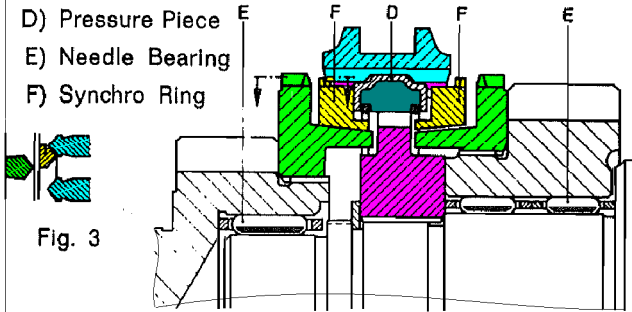

Fig. 3
2. Shifting Operation (Figs. 3 and 4)
The position of the synchronizer ring In relation to the sliding sleeve is therefore such that the teeth on the outer diameter of the ring are offset in relation to the tooth gaps of the sliding sleeve (Fig. 3).